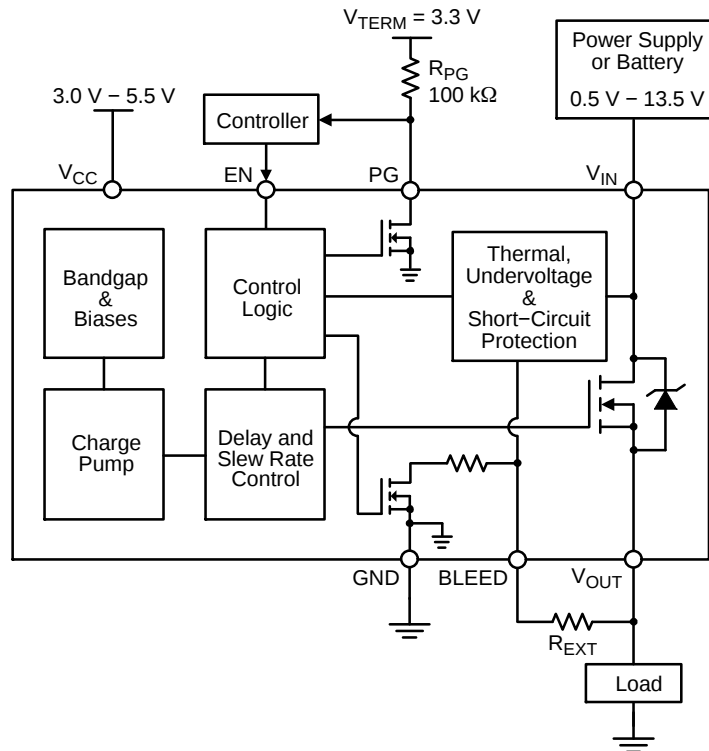
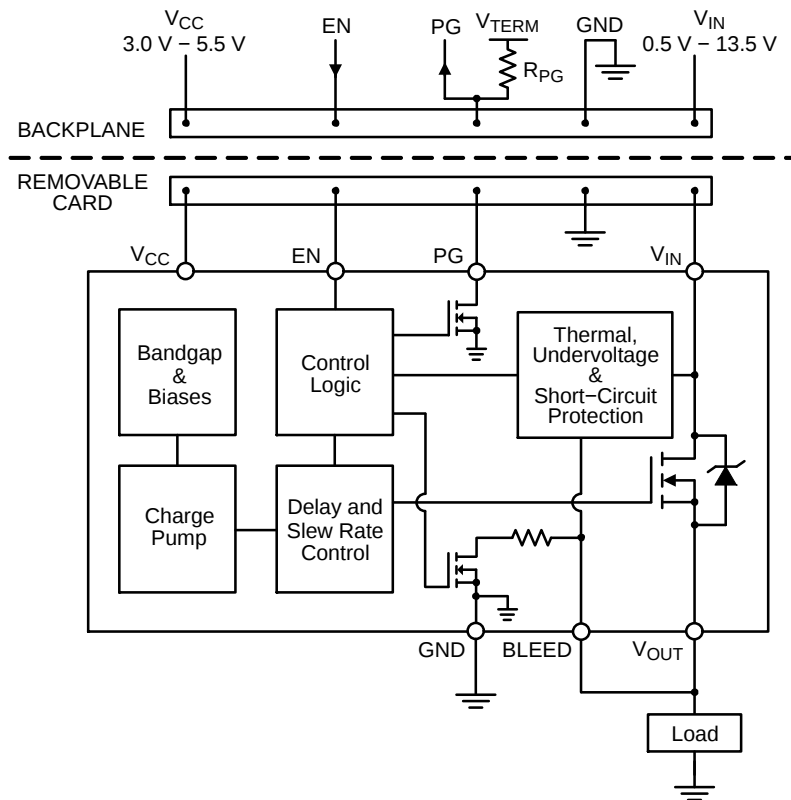

Figure 3. NCP45522 Typical Application Diagram – Load Switch
Figure 4. NCP45522 Typical Application Diagram – Hot Swap
It is required that the BLEED pin be connected to V_{OUT} either directly (as shown in Figures 4 and 7) or through an external resistor, R_{EXT} (as shown in Figures 3 and 6). R_{EXT} should not exceed 1 k Ω and can be used to increase the total bleed resistance.
The NCP45522 devices have a power good output (PG) that can be used to indicate when the gate of the MOSFET is fully charged. The PG pin is an active-high, open-drain output that requires an external pull up resistor, R_{PG} , greater than or equal to 1 k Ω to an external voltage source, V_{TERM} , that is compatible with input levels of all devices connected to this pin (as shown in Figures 3 and 4).
Once active, the circuitry monitors the difference in the voltage on the V_{IN} pin and the voltage on the BLEED pin. In order for the V_{OUT} voltage to be monitored through the BLEED pin, it is required that the BLEED pin be connected to V_{OUT} either directly (as shown in Figures 4 and 7) or through a resistor, R_{EXT} (as shown in Figures 3 and 6), which should not exceed 1 k Ω . With the BLEED pin connected to V_{OUT} , the short-circuit protection is able to monitor the voltage drop across the MOSFET.